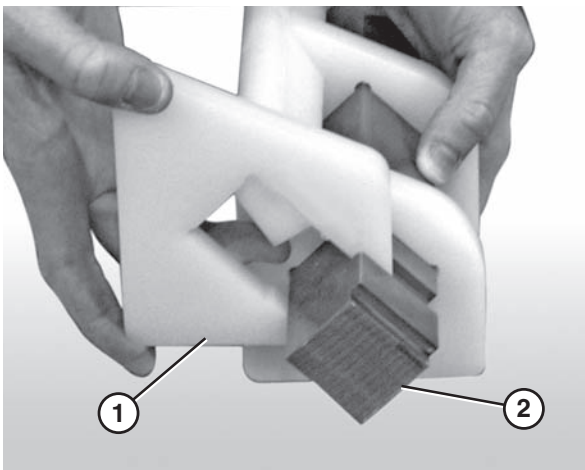

Figure 63
3. Attach the nose bar tracking pucks (Figure 63, item 1) to the nose bar drive post (Figure 63, item 2).